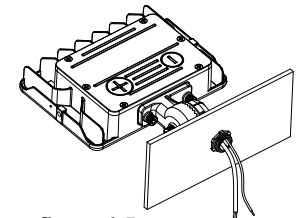

figure 1.5
- Step 3: Loosen the screws, adjust the lamp angles as per actual demands and then tighten the screws; (figure 1.5)